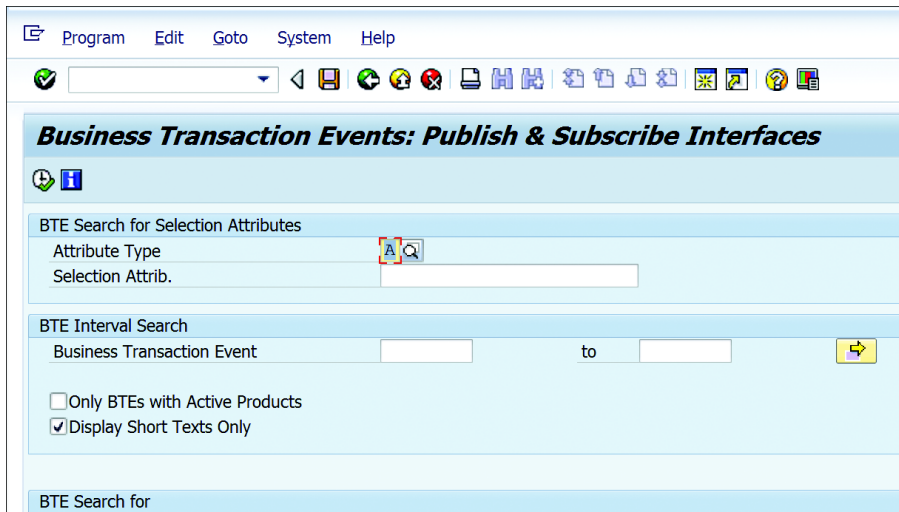

Figure 20.63 Search Publish and Subscribe Interfaces
2. On the selection screen for publish and subscribe interfaces, enter "A" (for *application component*) in the ATTRIBUTE TYPE field and click EXECUTE (see Figure 20.63).